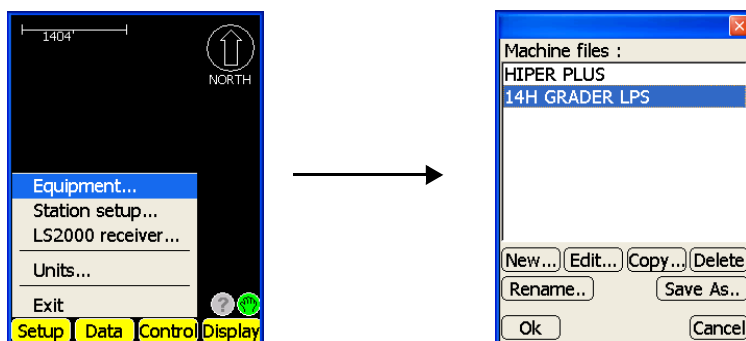

Figure 5-10. Select Equipment Configuration File
2. Press **Setup ▶ Equipment**, select the correct equipment configuration file, and press **Ok** (Figure 5-10). See “Equipment Configuration Files” on page 2-28 for more information on selecting or creating equipment configuration files.